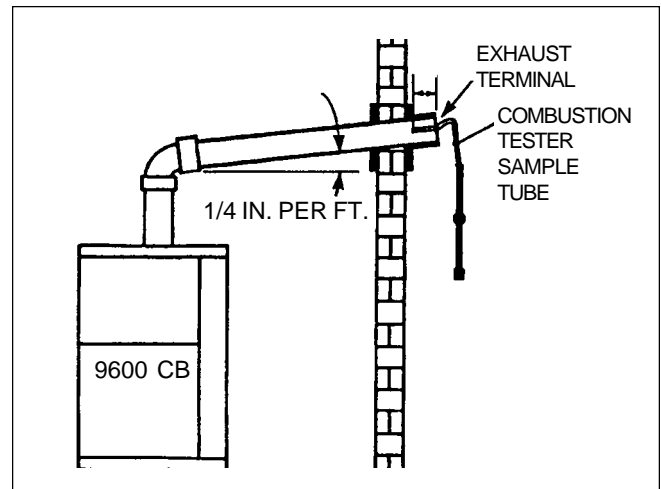

Figure 7. Checking Combustion.
2. Check combustion (see Figure 7).